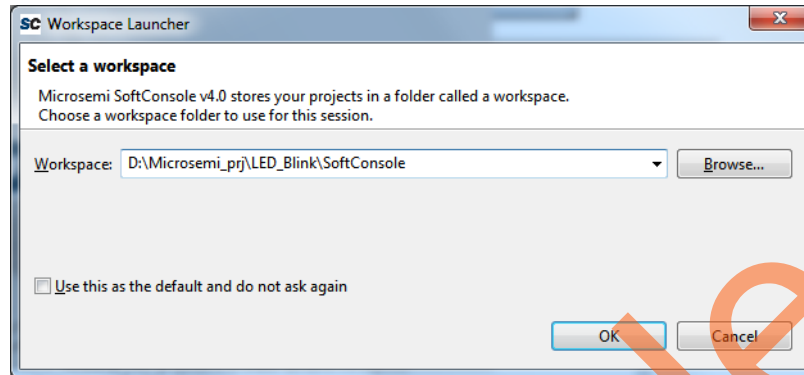

Figure 23 • Workspace Launcher
2. Browse to the location to select D:\Microsemi_prj\LED_Blink\SoftConsole, as shown in Figure 23.